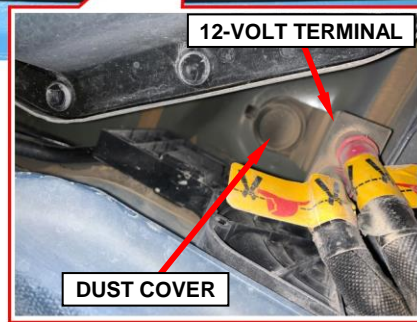

Figure 22 – 12-Volt Cable Underbody Connector Location
5. 12-volt cable underbody connector location (Figure 22).
6. Release the dust cover from the 12-volt cable terminal (Figure 22).
27. Install the dust cover to the 12-volt cable terminal (Figure 22).